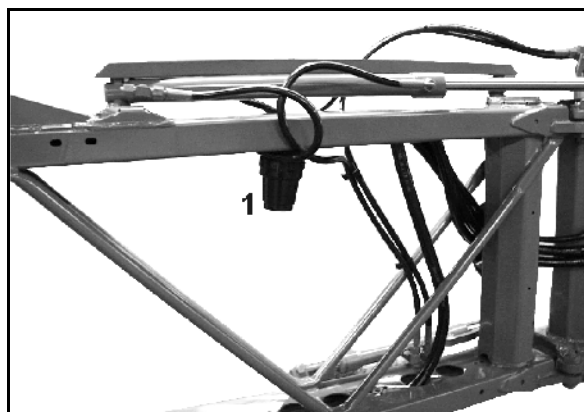

Fig. 152
- Clean the line filter (Fig. 152/1).